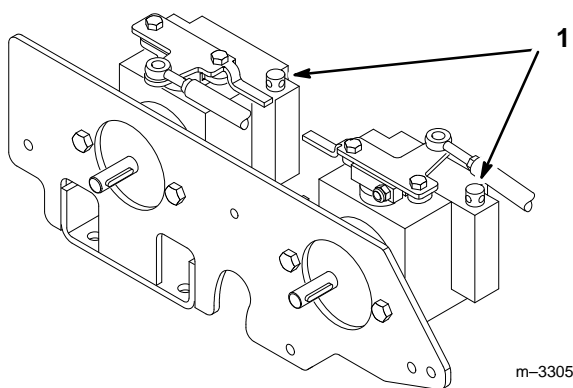

Figure 12
2. Rotate pump by-pass valves counterclockwise 2 turns to push. This allows hydraulic fluid to by-pass the pump enabling the wheels to turn (Fig. 12).
1. Turn the by-pass valves in to operate (Fig. 12).